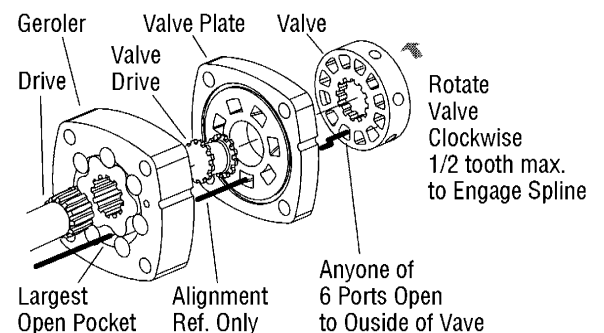

Figure 12 Timing Alignment
**34** Align the notch on the outside of the valve plate with the notch on the Geroler as shown in Figure 12.